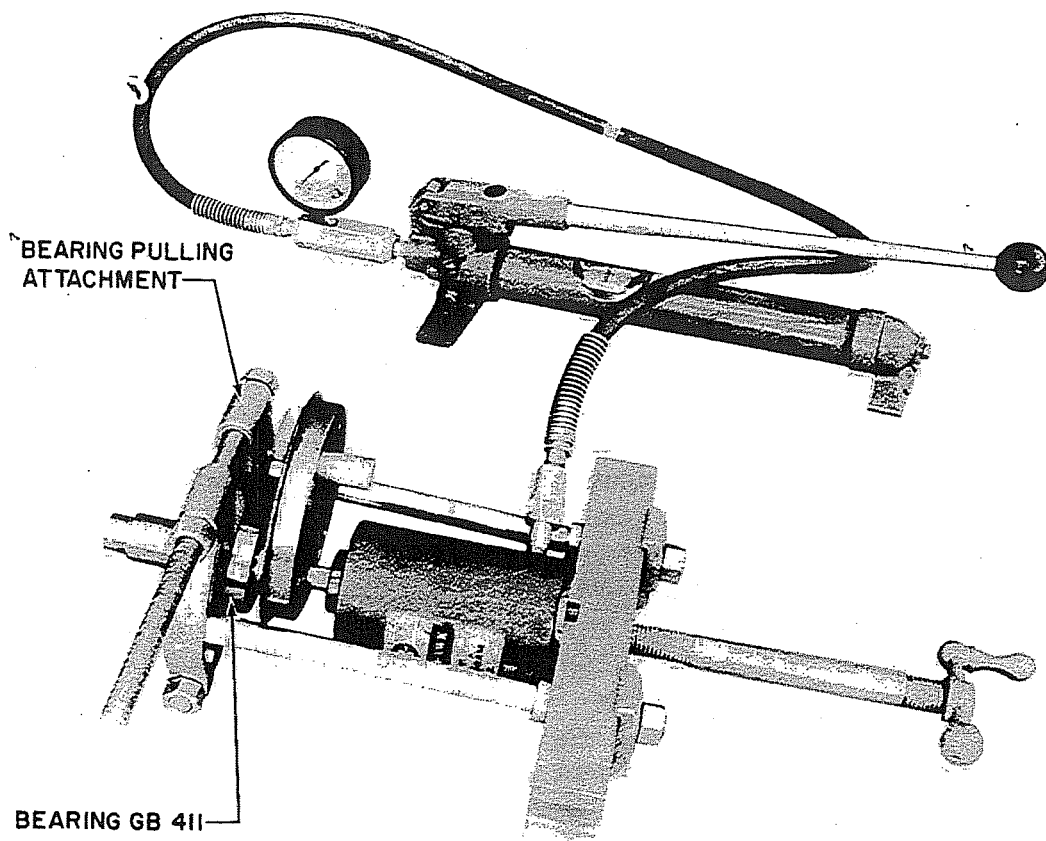

Figure 21. 2 to 1 Shaft, Installation of Bearing GB411
- J. Secure the bearing pulling attachment behind Bearing GB411 and apply pressure to Deck Lift Crank Eccentric GB418 at the axial center line of the shaft (figure 21). The shaft should be cleaned and lubricated prior to assembly.